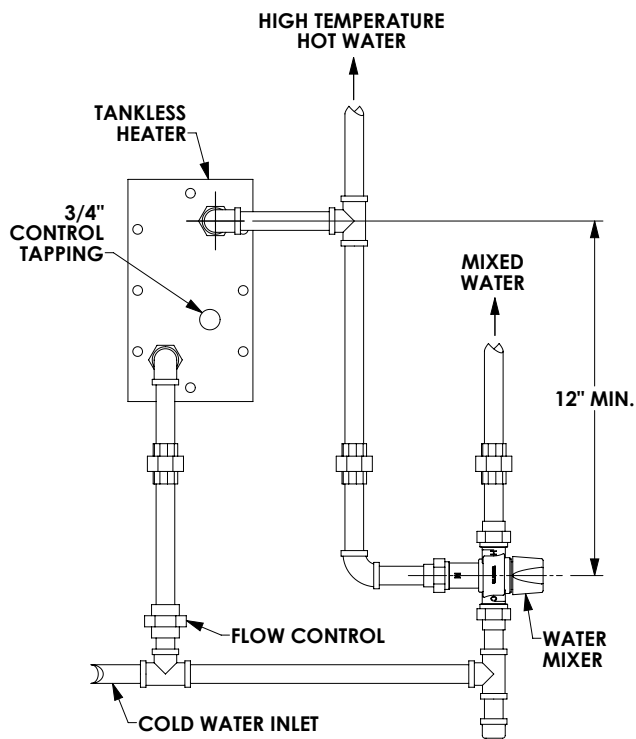

Figure 3.2: Tankless Coil Piping, Steam Boiler
1. If a tankless coil is used (item 9), install in opening in rear section.
2. For suggested piping of tankless water heater refer to Figure 3.2.